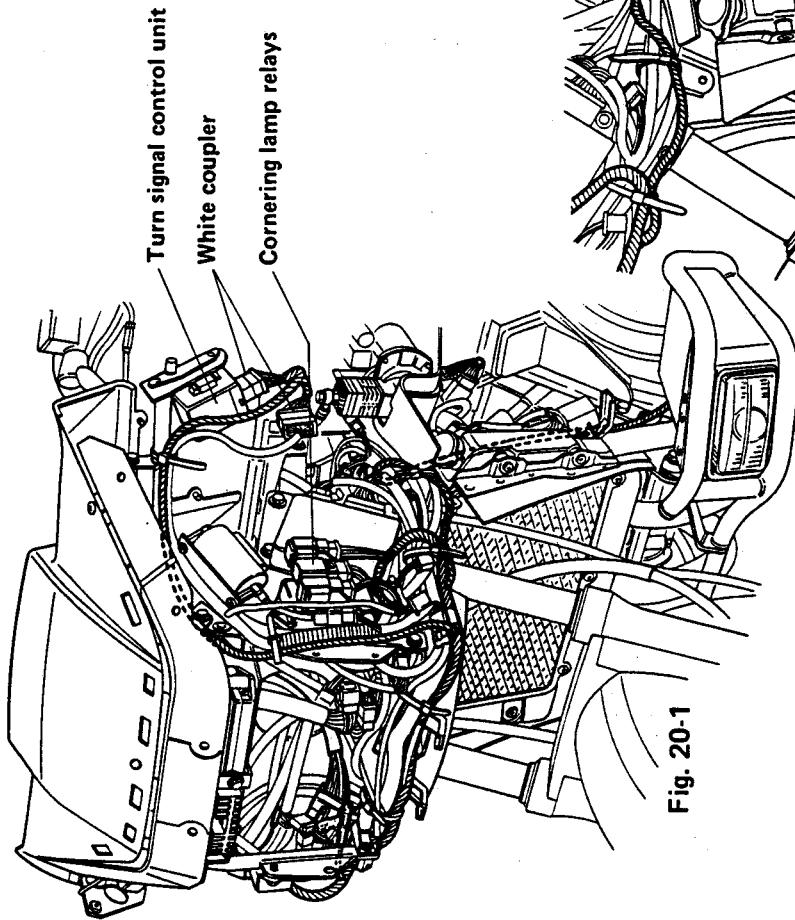

Fig. 20-1
- 4) On the left side of the headlight brace, route the lead wire for the turn signal control unit and connect the white coupler to the turn signal control unit as shown in Fig. 20-1.
- 5) Connect the cornering lamp relays as shown in Fig. 20-1.